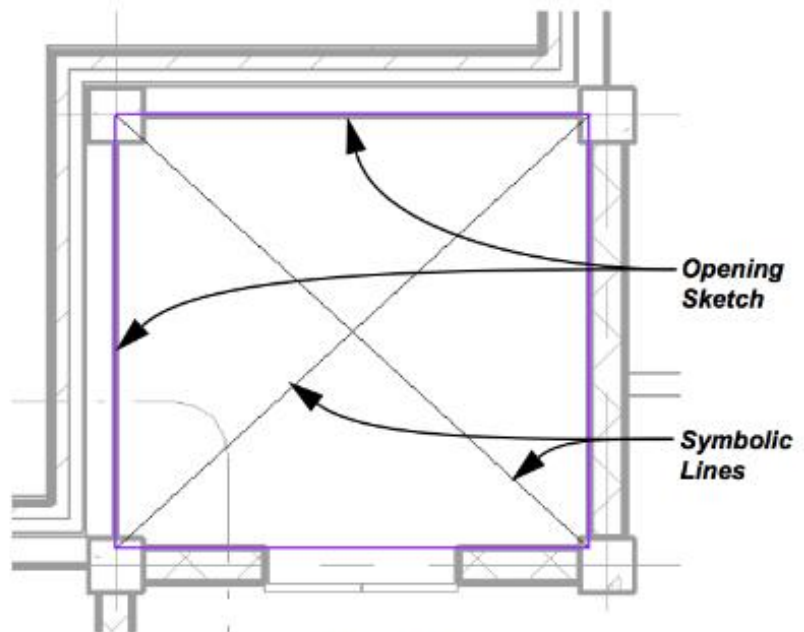

Figure 9–31
7. In the Draw panel, click  (Symbolic Line) and draw two lines crossing the opening, as shown in Figure 9–31.